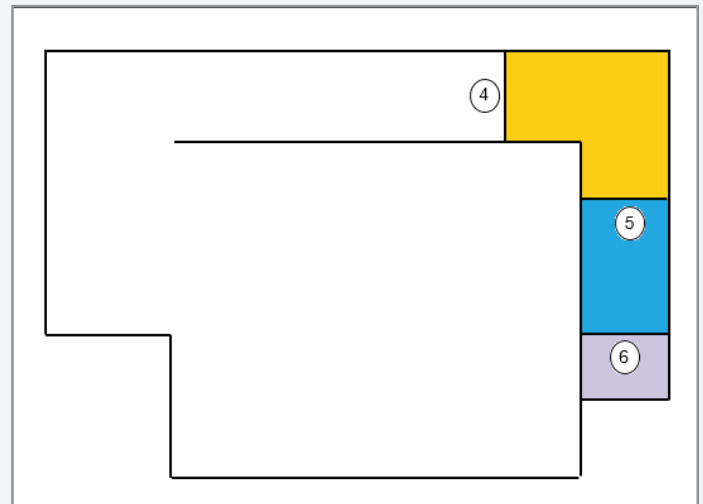

Figure 3b. Trace Room Side Walls; Rooms Auto-Identified
3. Then as you trace the individual side walls of a room (Figure 3b, lines 4 and 5), HAP detects when you
complete a new enclosed areas. HAP identifies each new area as a space (Figure 3b, orange shaded area).
4. Drawing another side wall (Figure 3b line 6) encloses further areas which are identified as rooms (Figure 3b, blue and purple shaded areas).